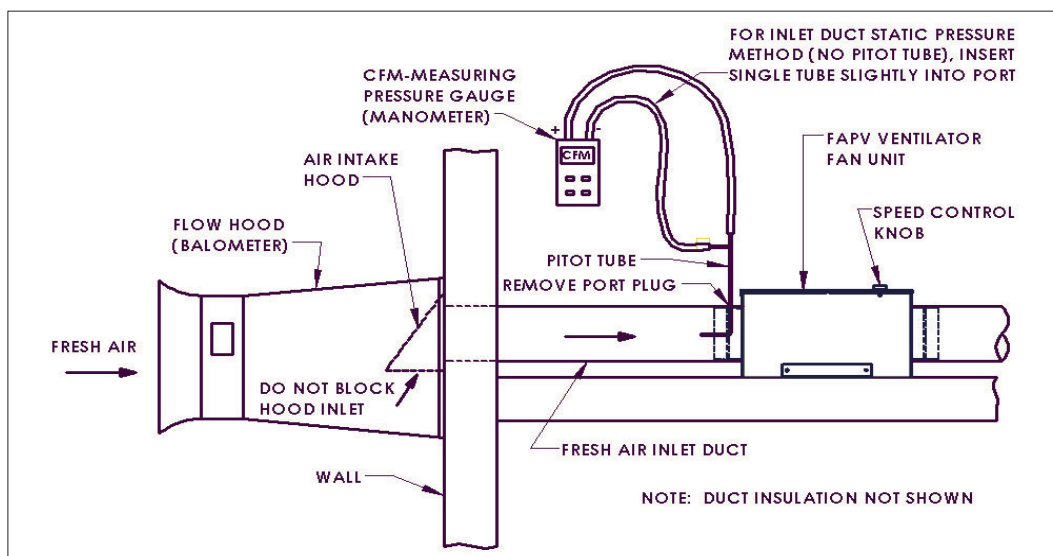

Figure 6, AIR FLOW TUBE MEASUREMENT METHODS
**Taking Air Flowrate Measurements:** Several methods of measuring the ventilation air flowrate as provided by the FAPV ventilation system may be used, see Figure 6:
- **Pitot Tube Measurement using a Manometer with flow measurement capability (HVAC air pressure/flow measurement instrument), see Figure 6:**
- **Inlet Duct Static Pressure Measurement using a simple Manometer (air pressure gauge), see note on Figure 6.**